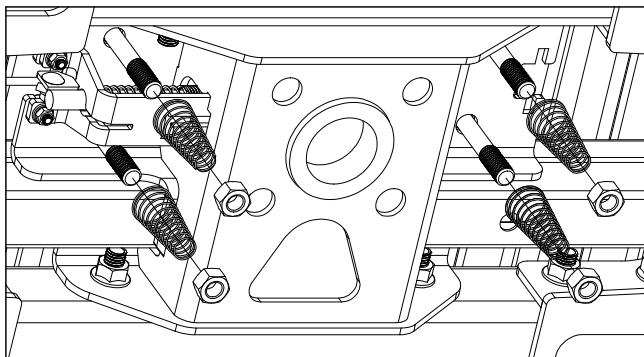

Figure H2: View looking up under center section.
- 3. Add Springs.** Place a conical spring over each leg of the U-bolts and secure with a 5/8" lock nut, see Figure H2. Tighten the lock nut until the nut is flush with the end of the U-bolt.